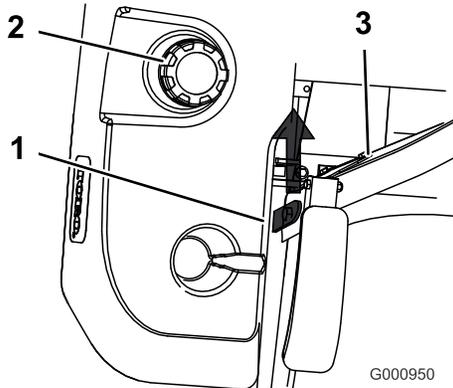

Figure 30
3. Raise the seat up. This will allow access to the machine under the seat (Figure 30).